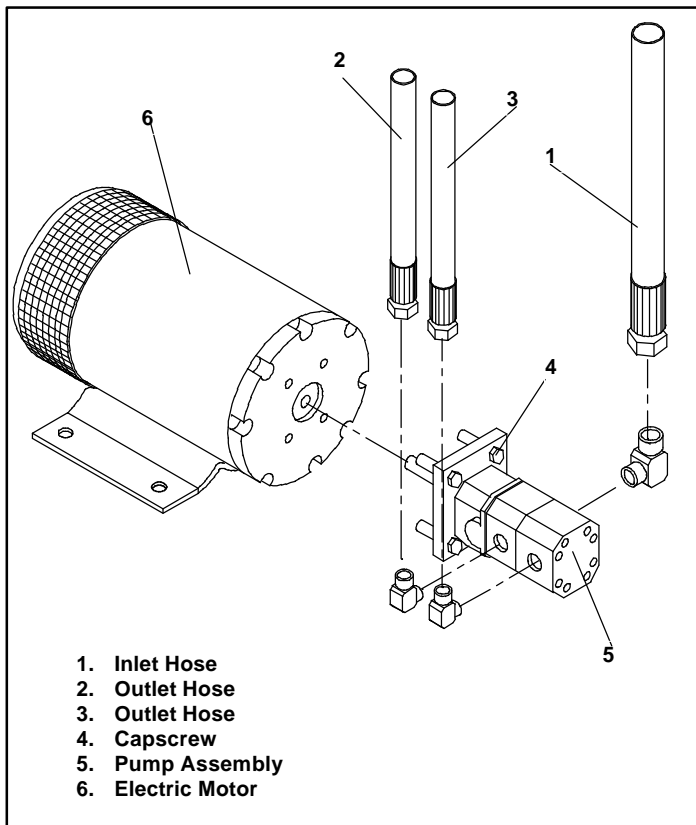

Figure 4-13: Hydraulic Pump
4.9 Hydraulic Pump (Figure 4-13)